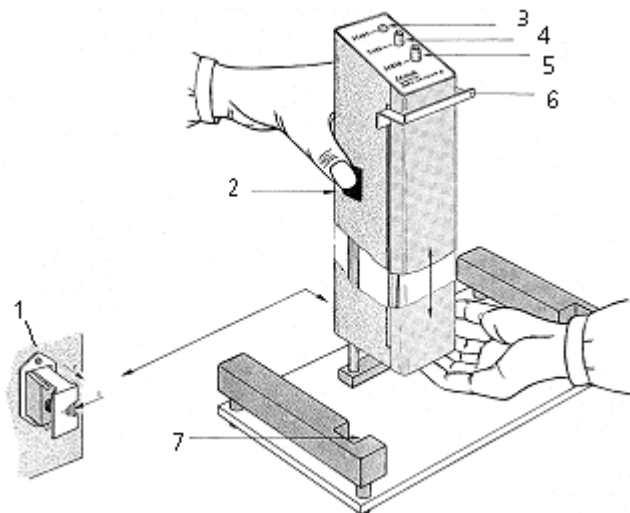

Fig.1: Height adjustment
- Insert the lithium battery supplied into compartment (1) at the back of the instrument.
- Make sure that the poles of the battery match those marked in the battery compartment. See figure 1
- Adapt the instrument to the selected TLC plate size by pressing the button (2).
- Slide the entire assembly up or down by hand. Release the button (2) when at the upper position for 20 x 20 cm plates or at the lower position for 20 x 10 cm plates. The arm (6) is now in the right position for the selected plate size. See figures 1 and 2.
- Open the battery compartment at the back side of the instrument (Fig.1 #1)